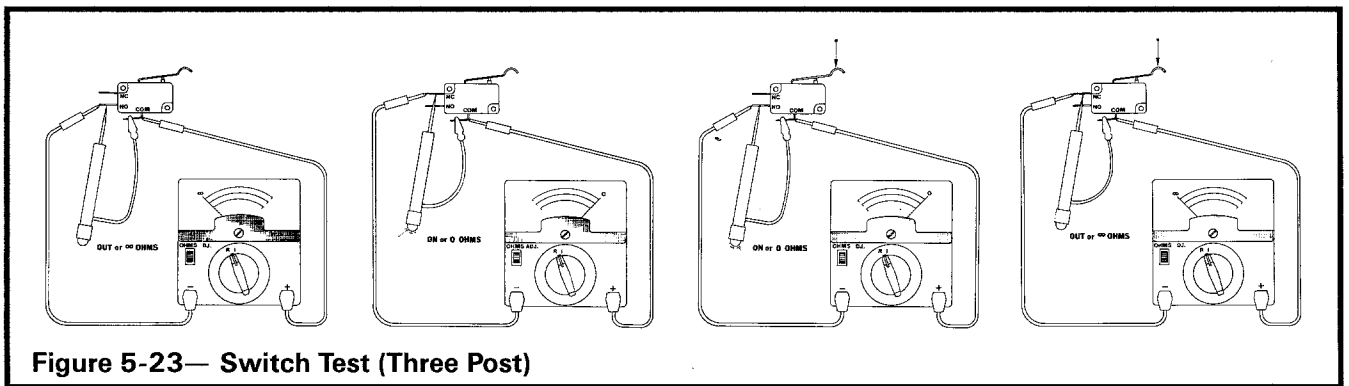

Figure 5-23— Switch Test (Three Post)
2) Using continuity tester or VOM on ohms (RX1), check continuity across common (COM) and normally open (NO) and across common (COM) and normally closed (NC). (Figure 5-23)